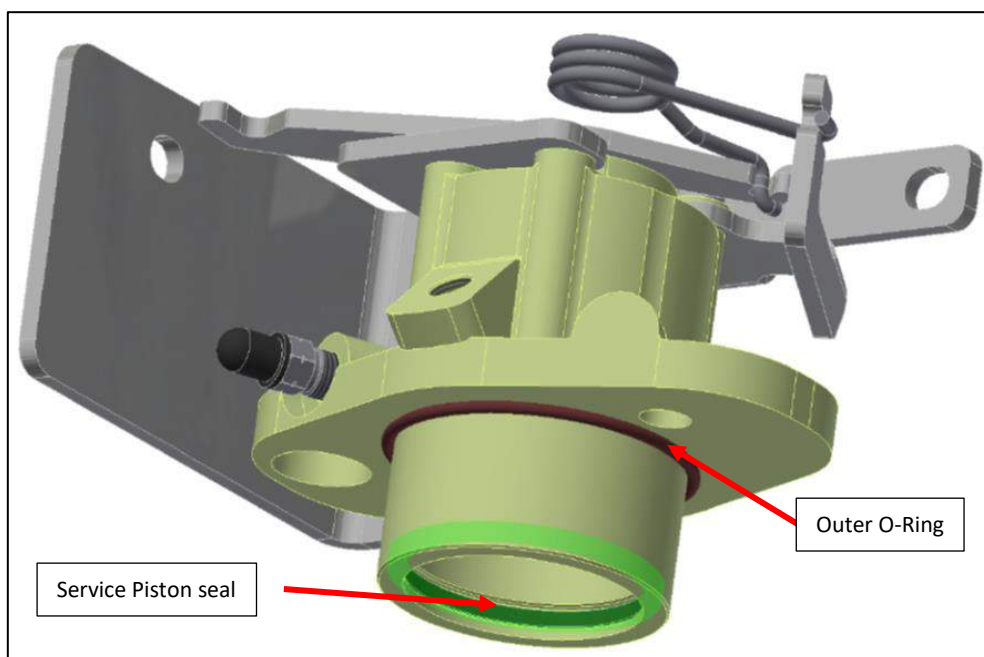

Figure 73
18. Fit the service piston seal into the groove in the piston housing. Run a finger around the seal to ensure it is seated correctly and not twisted (Figure 73).
19. Attach the outer O-ring to the piston housing (Figure 73).